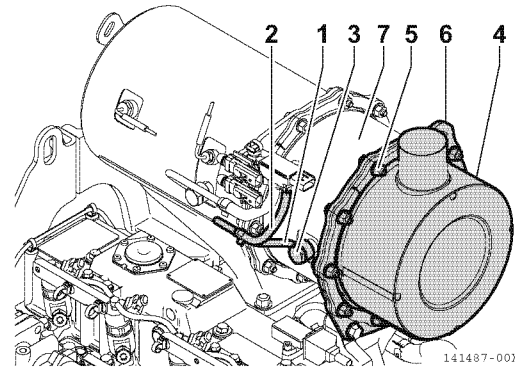

Figure 13-13
- Loosen the hose clip for the hose (2 Figure 13-13) connected to the SF side exhaust pressure pipe (1 Figure 13-13), and remove from the pipe.
- SF cleaning is also possible while the exhaust pressure pipe is attached, therefore it is not necessary to remove the pipe joint bolts (3, Figure 13-13).
- Remove the M8 bolts and flange nuts (5, **Figure 13-13**) (8 or 10 of each) that fix the silencer (or outlet flange) (4, **Figure 13-13**) and SF case (7, **Figure 13-13**).